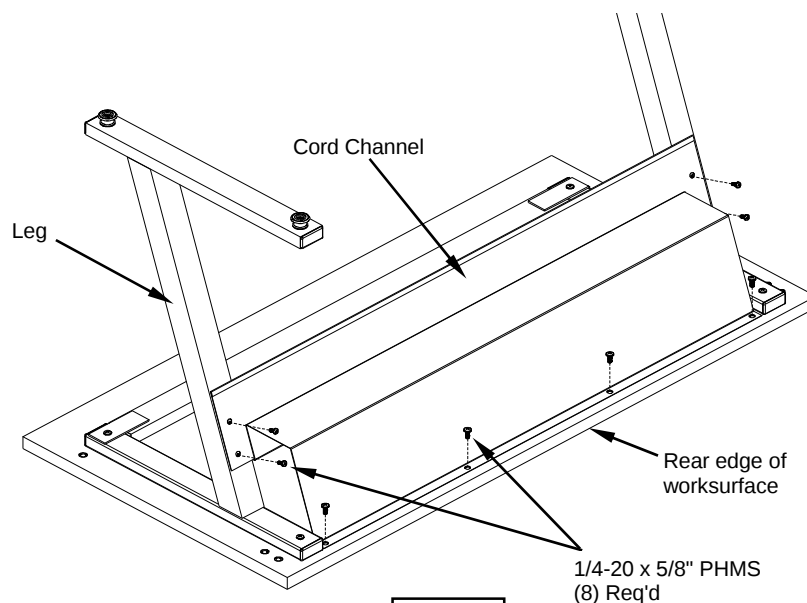

Figure 2
- Attach the cord channel to the legs and worksurface with (8) 1/4-20 x 5/8" PHM screws. **Figure 2.**